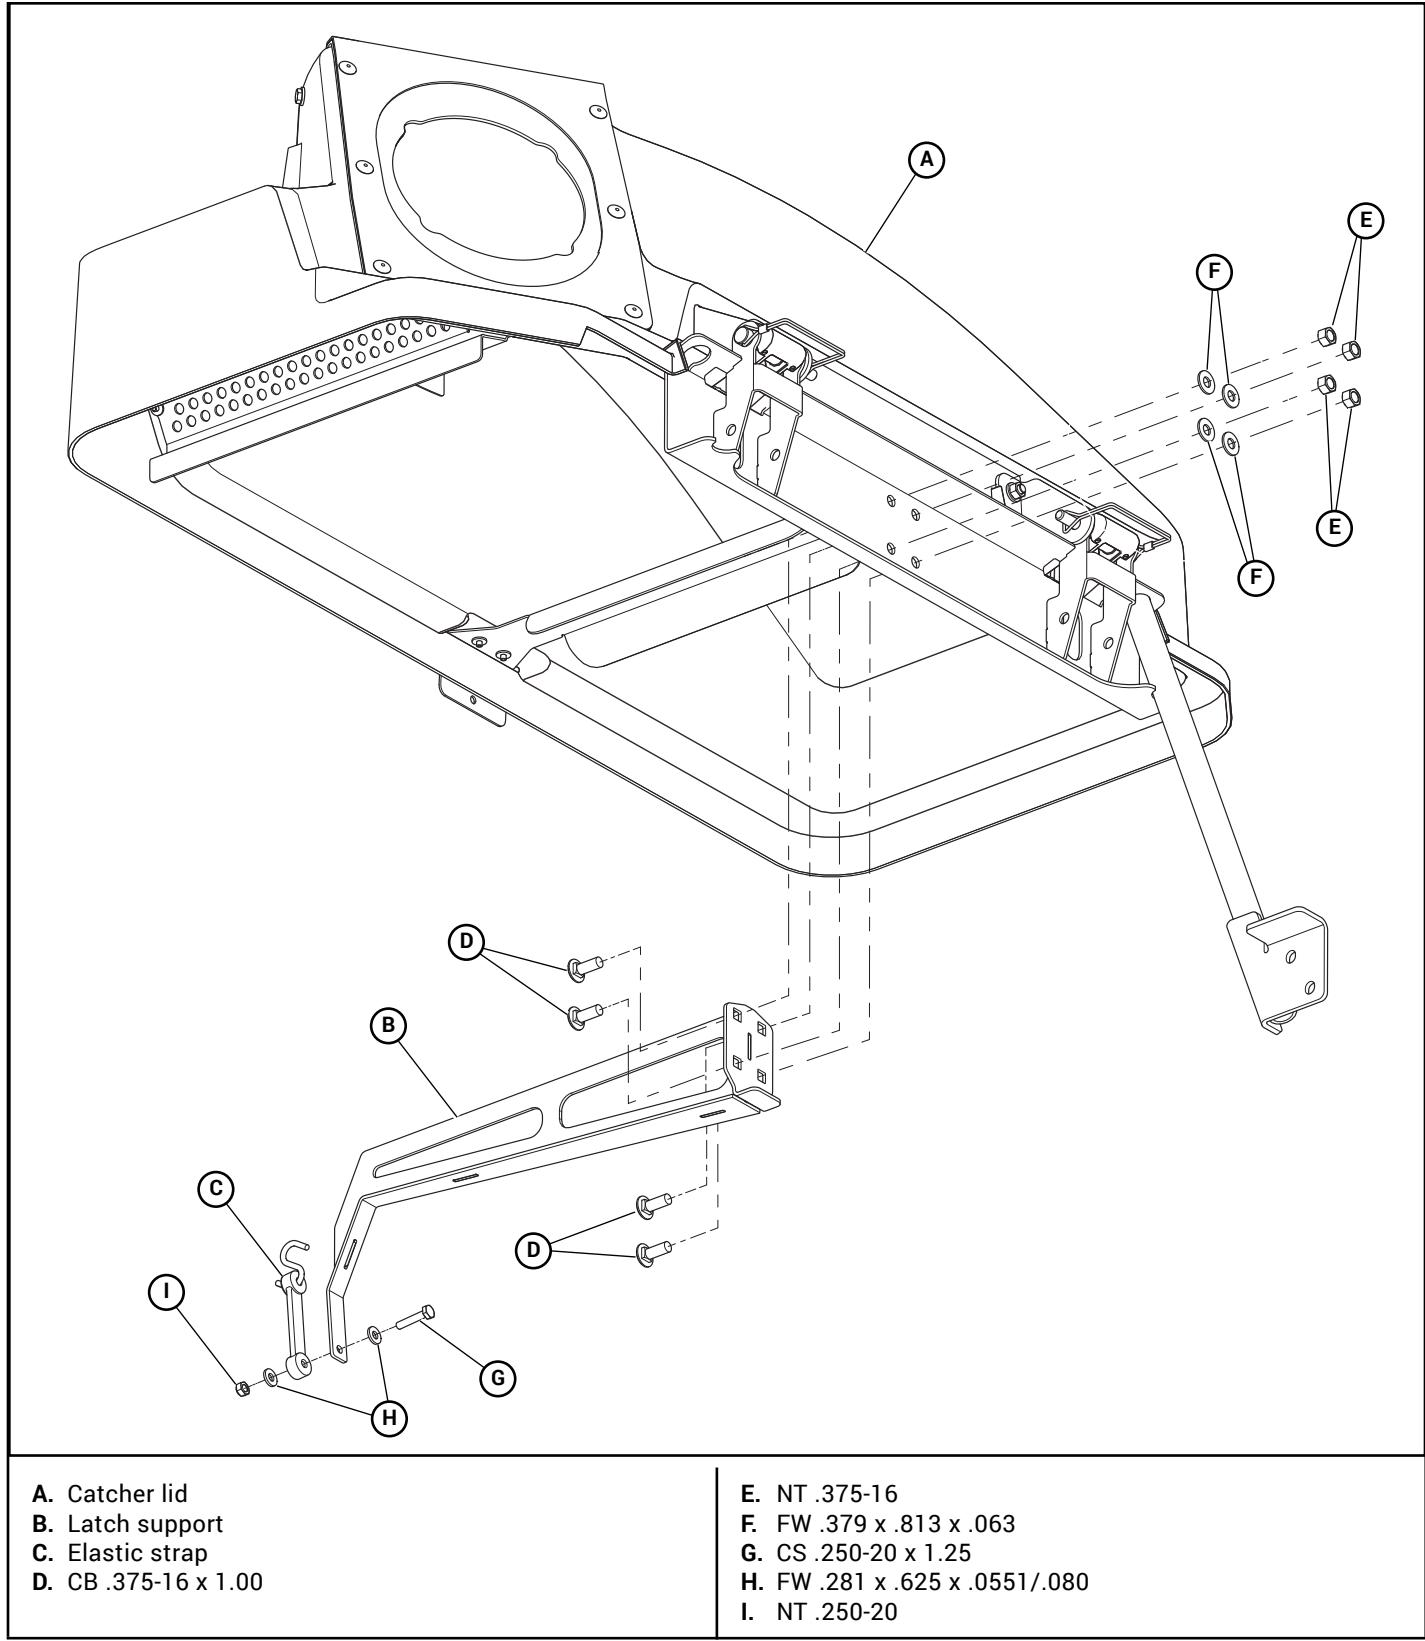

Figure 3-22
30. Attach the latch support to the catcher frame as shown in Figure 3-22.
31. Attach the elastic strap to the latch support. Position the elastic strap as shown. Figure 3-22